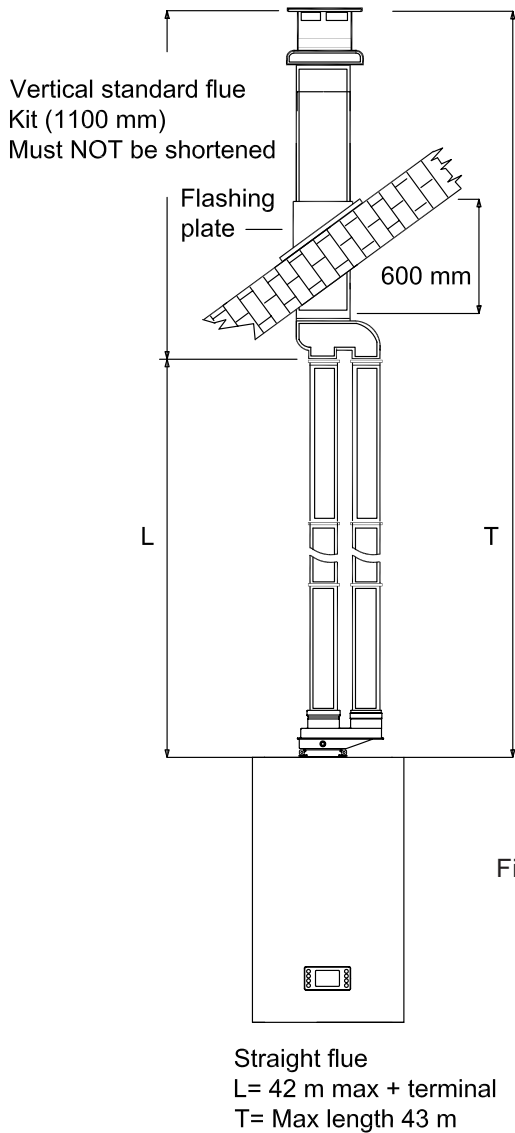

Fig. 24
**5.15 Exhaust/suction system with concentric pipes for flat or sloping roofs. Extensions with two separate pipes (fig. 24).**